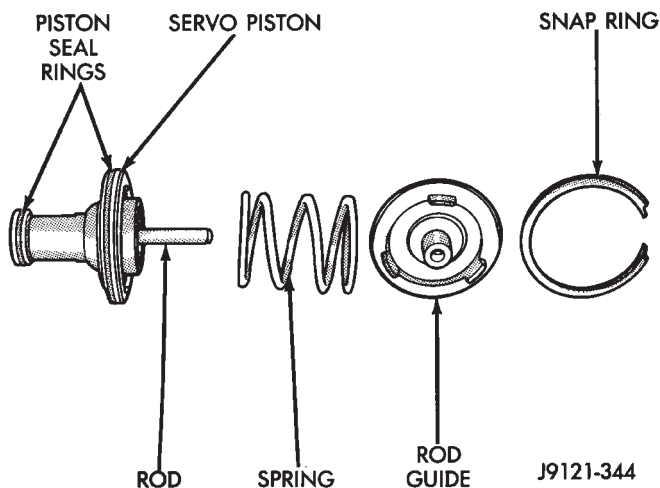

Fig. 154 Front Servo Components
(2) Install front servo piston assembly, servo spring and rod guide (Fig. 154).